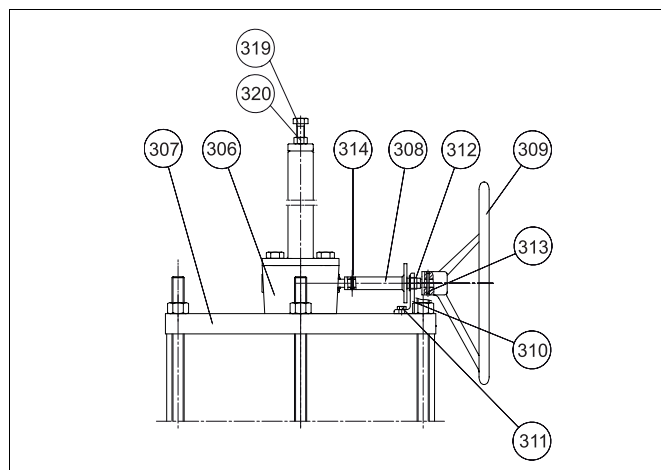

Fig. 27 B1JRR actuator
The B1JRR actuator is otherwise like the B1J except that it can be operated manually to bring the piston to the lower position against the spring in case there is no air supply. Turning the handwheel clockwise closes the valve. The B1J actuator can be changed into a B1JRR by replacing the cylinder end (44) accordingly and adding parts (306 to 320), see Fig. 27.
Parts list for Fig. 27: